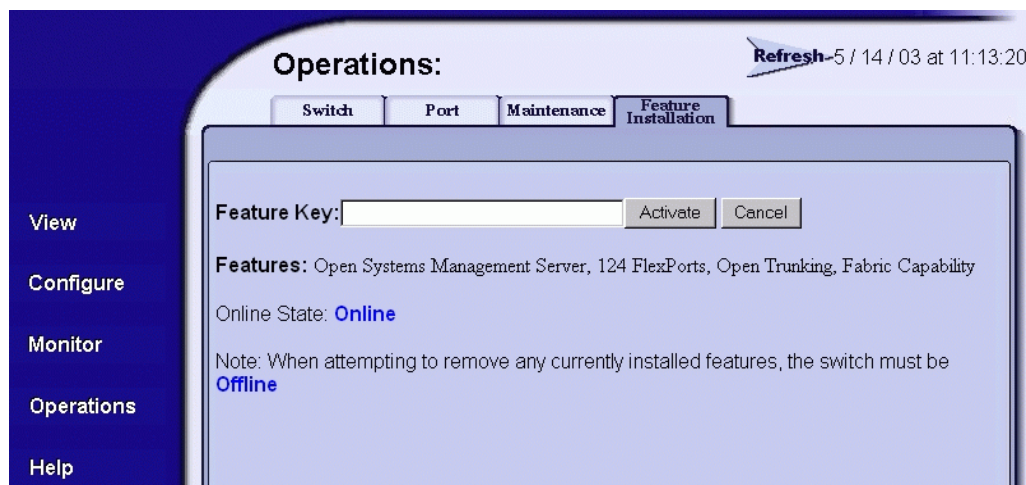

Figure 2-21 Operations Panel (Feature Installation Tab)
3. Click the *Feature Installation* tab. The *Operations* panel opens with the *Feature Installation* page displayed (Figure 2-21).